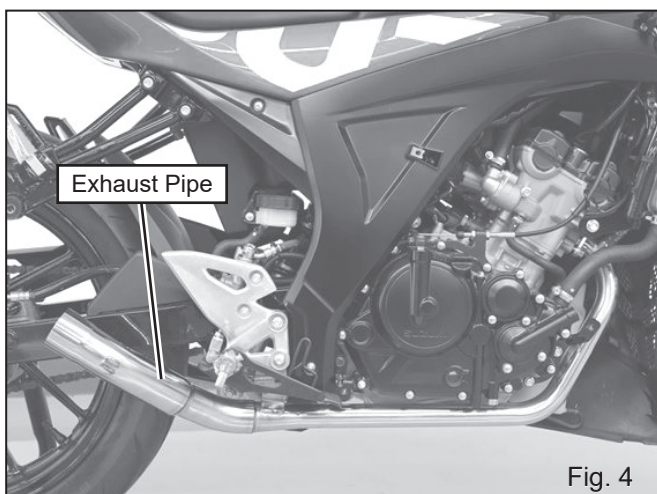

Fig. 4
- 5) Insert SUZUKI genuine new exhaust gasket on exhaust port. Then, insert Exhaust Pipe into exhaust port and fix it with stock bolts (See Fig. 4 & 5). Tighten bolts by hand only at this stage.